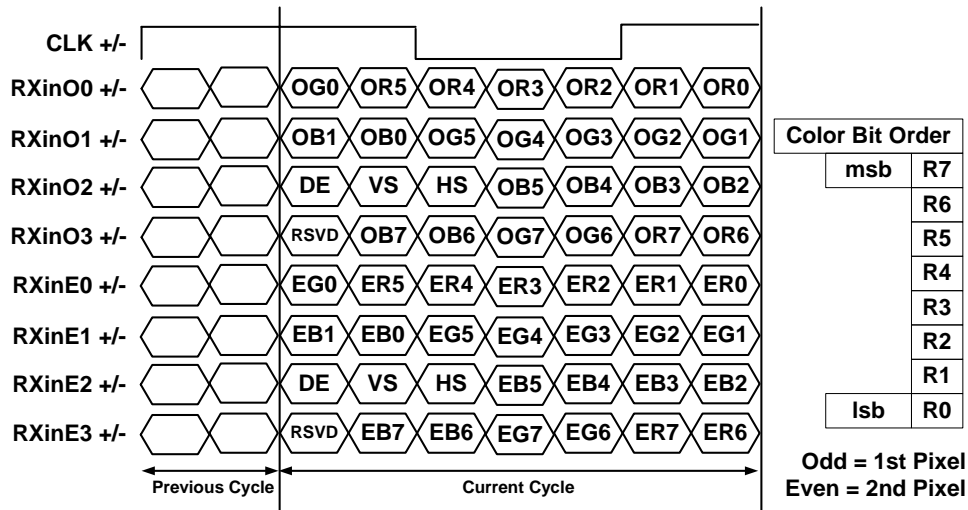

Figure 5-1 - LVDS Data/Color Mapping for Dual Channel, 8-bit panel
- Figure 5-1 shows the LVDS Data Color Mapping for a 8-bit 1080p panel. Dual LVDS channels are used to support 1080p mode.